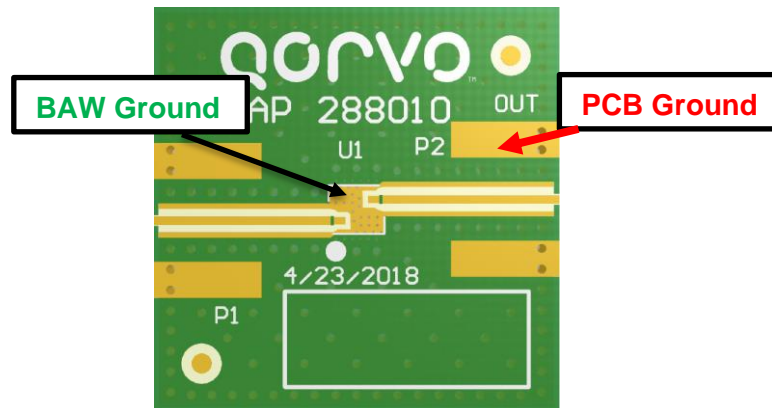

Figure 4b. Recommended Ground Via Placement.
**Grounding of BAW GND pins** - The ground pins serve as the primary RF ground reference for the entire BAW. Connect the BAW filter ground pins directly to the main ground plane layer of the PCB. The PCB ground layer should be close to the component layer, preferably the next layer down to minimize the lengths of via connections between the component and ground layers. Ground paths (under device) should be made as short as possible. This ground layer also provides the reference layer for microstrip lines. **Reference Plane** - A larger number of via holes should be distributed over the entire area below/around the BAW to provide good RF ground reference ground plane, as shown in **Figure 4b** below. Alternately, it is recommended to place a ground via close and next to each GND pin of the BAW to avoid a ground loop. Each ground pin should have their own ground via. The QPQ1905 EVB uses GND vias with an 8mil diameter and 8mil hole size under the BAW.